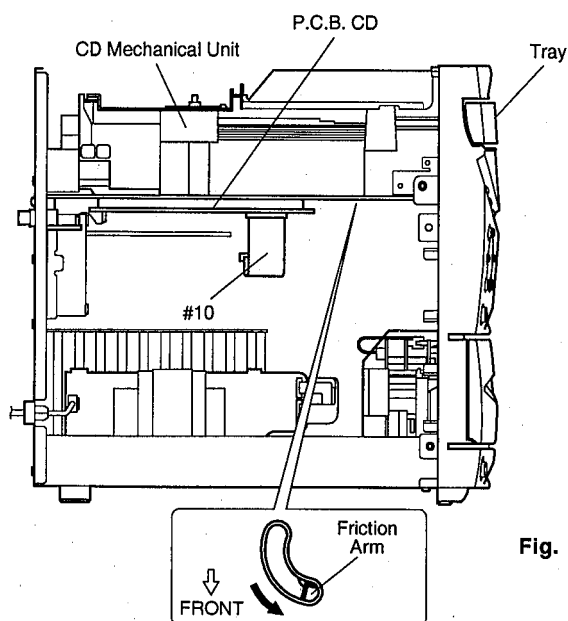

Fig. 2
- Push the Friction Arm (the bottom side of the CD Mechanical Unit) with a screwdriver or the like as shown in Fig. 2.
- Disconnect the Flat Connecting Cable (#10) in Fig. 2